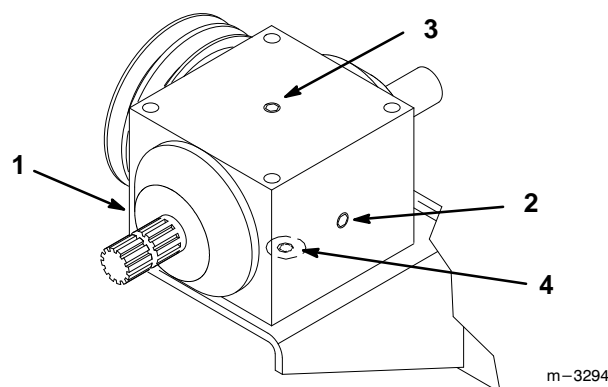

Figure 23
2. If level is low, remove top plug and add until level is up to side plug in gearbox. (Fig. 23).